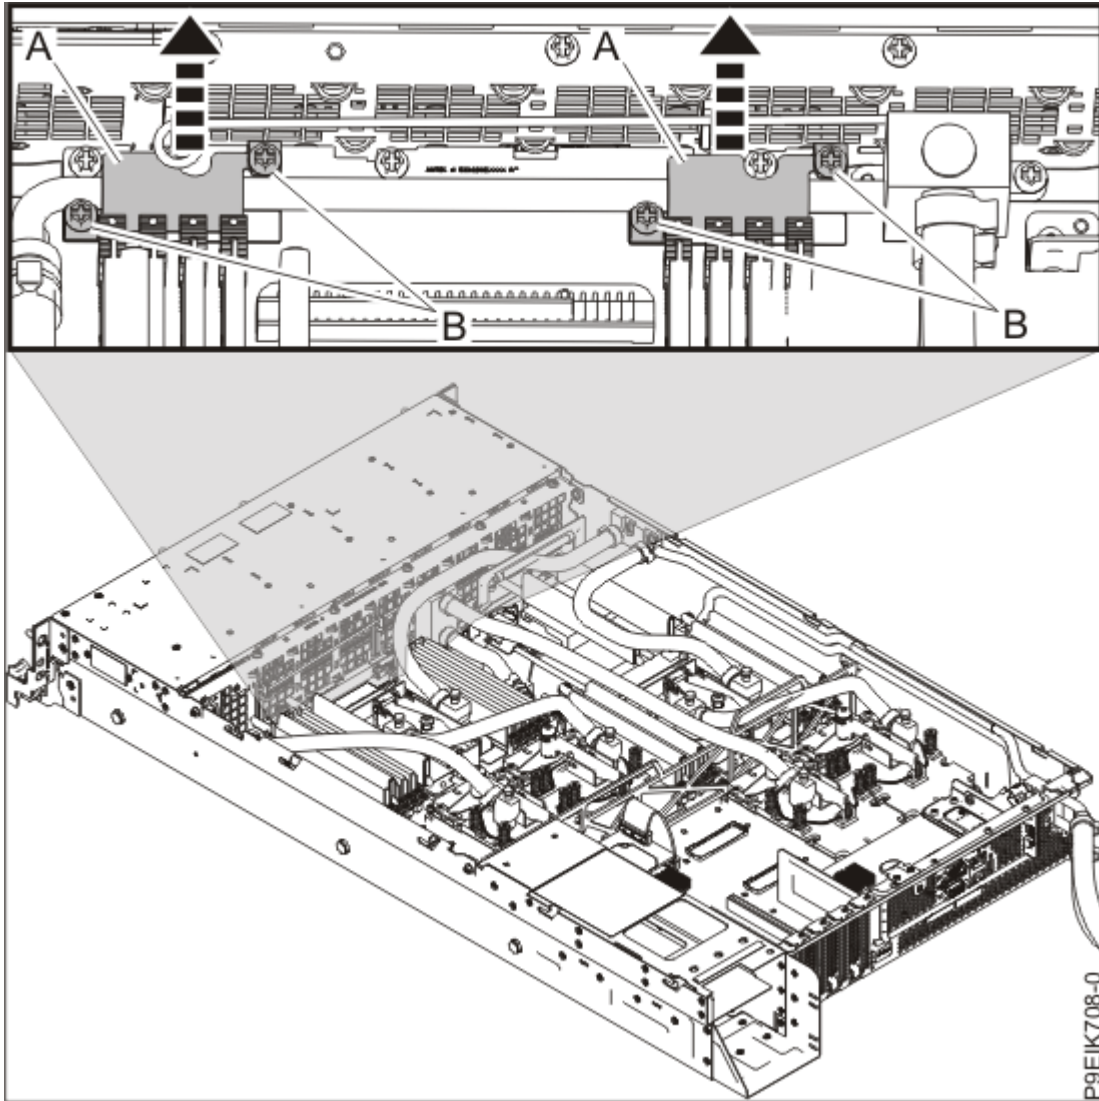

Figure 9. Removing the pipe holders
6. Remove the two pipe holders **(A)** near the front of the system as shown in Figure 9 on page 13. Loosen the four screws **(B)** and lift the holders from the pipes.